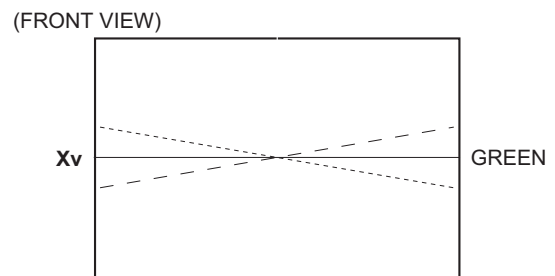

Fig.4
- (3) Repeat 1 and 2 above, and make best convergence.
- (4) Adjust XV by XV coil. (Fig.4)